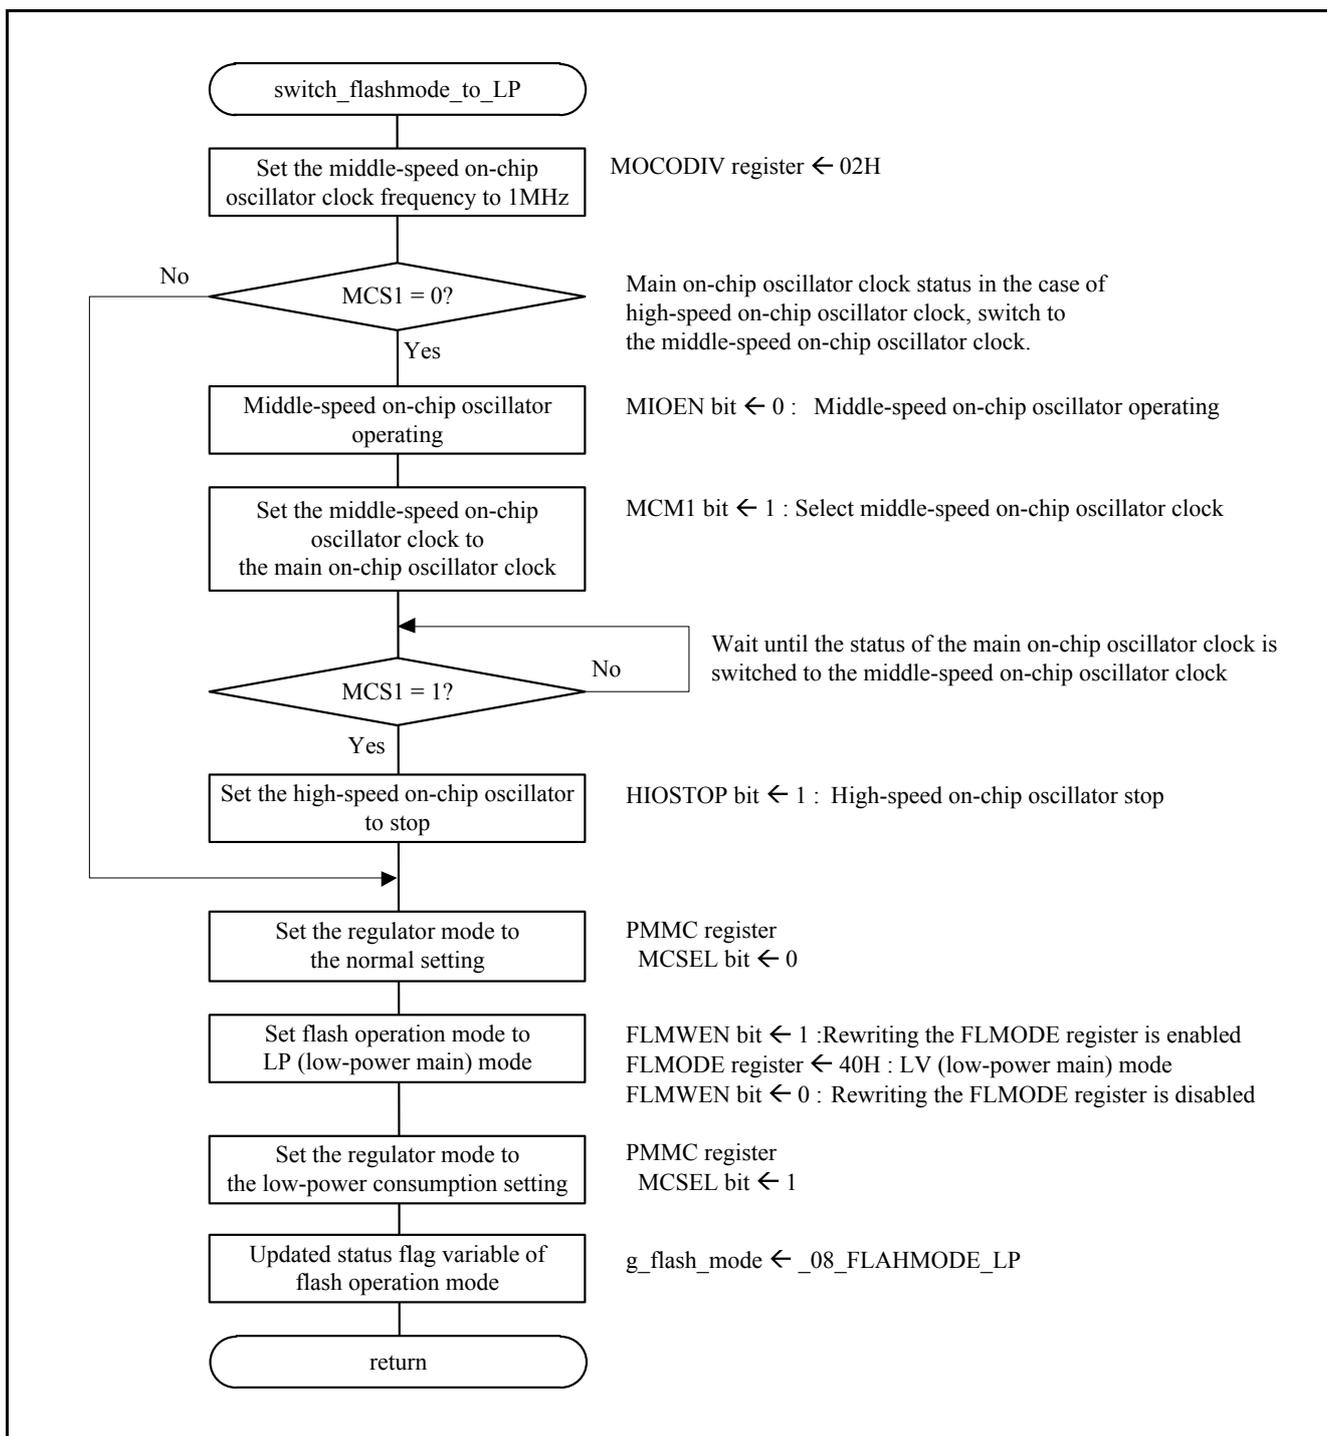

Figure 4.23 Flash operation mode switching (LP normal) processing
4.7.20. Flash operation mode switching (LP) processing
Figure 4.23 shows the flowchart of the flash operation mode switching (LP) processing.